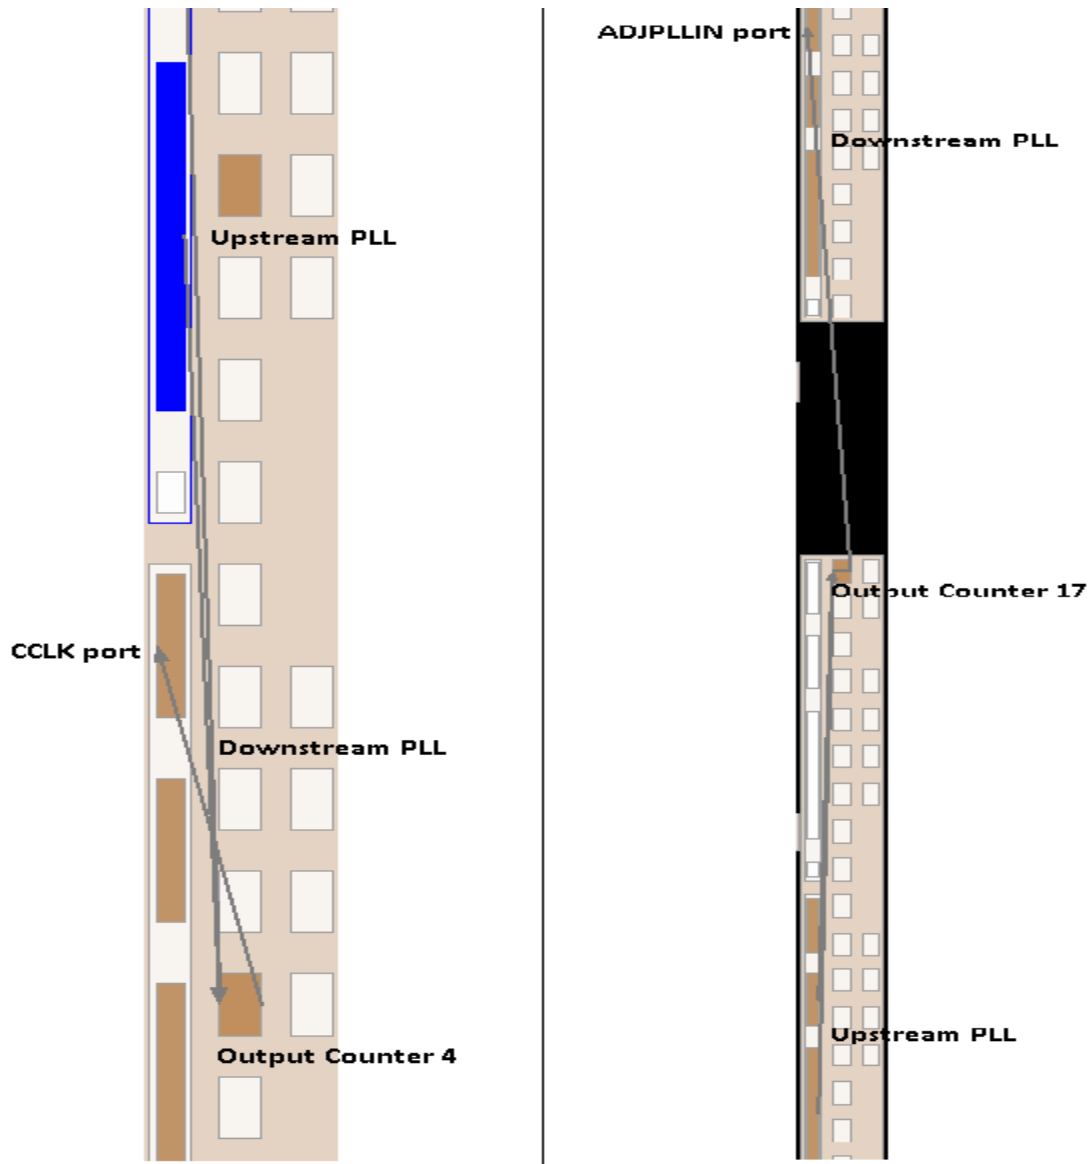

Figure 3- 3 adjpll原因 vs cclk cascading implementation
- Adjpll原因 vs cclk cascading implementation:** Adjpll原因 is used for inter-cascading between fPLLs that are not in the same fPLL pair and cclk is used for intra-cascading within the same pair of fPLLs. Routing will be different as adjpll原因 crosses fPLL boundaries. Figure 3 -3 shows the physical adjpll原因 and cclk cascading implementation from the Chip Planner. The C-Counter Clock source from output counter 4 or output counter 13 is used for cclk connection. When using the adjpll原因 input, it will be connected to the nearest output counter from the adjacent fPLL.